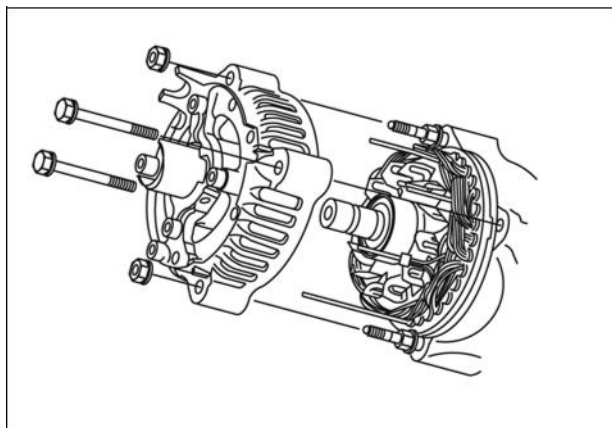

Figure 36
6. Align stator wires with holes in rectifier and assemble rectifier to brush end housing (Figure 36).